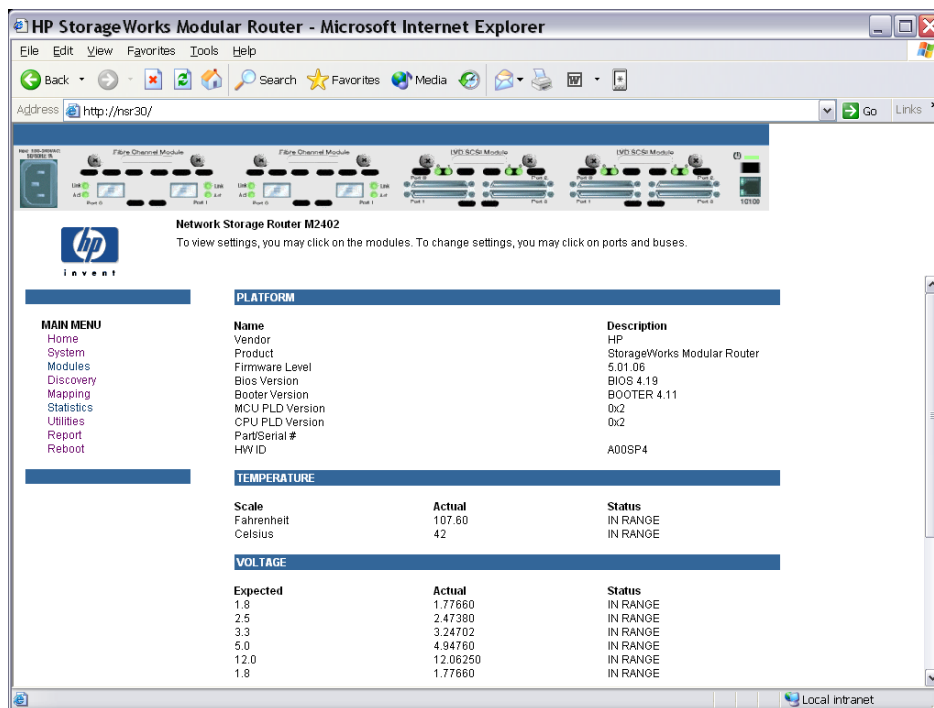

Figure 24: Starting the FC Interface Controller GUI
1. Start the web-based GUI for the Fibre Channel Interface Controller by entering the IP address or host name in the address box of your web browser (see Figure 24).